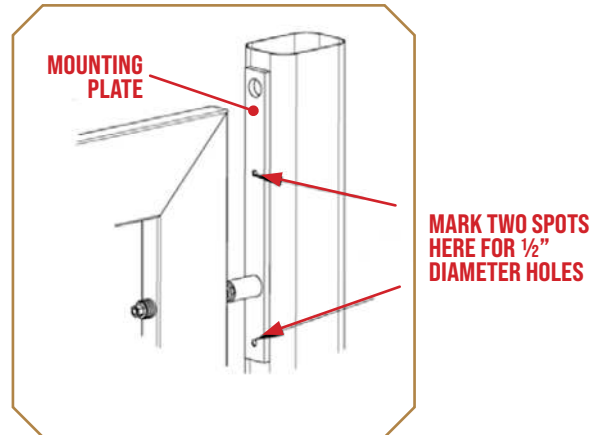

Figure 5
1. Using the mounting plate, mark two hole centers that are 9 $\frac{3}{8}$ " apart. Assure they are centered on the inside of the latch post (Figure 5).